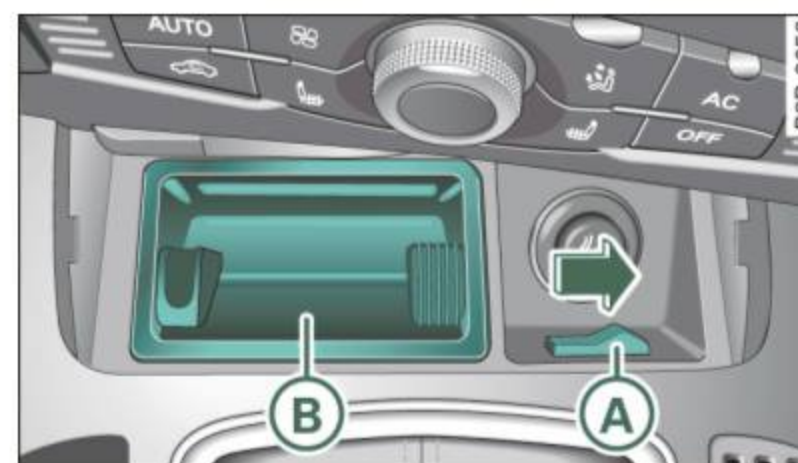

Fig. 159 Removing ashtray insert
- Release the ashtray by pushing the switch **(A)** ⇒ *page 154, fig. 159* to the right.